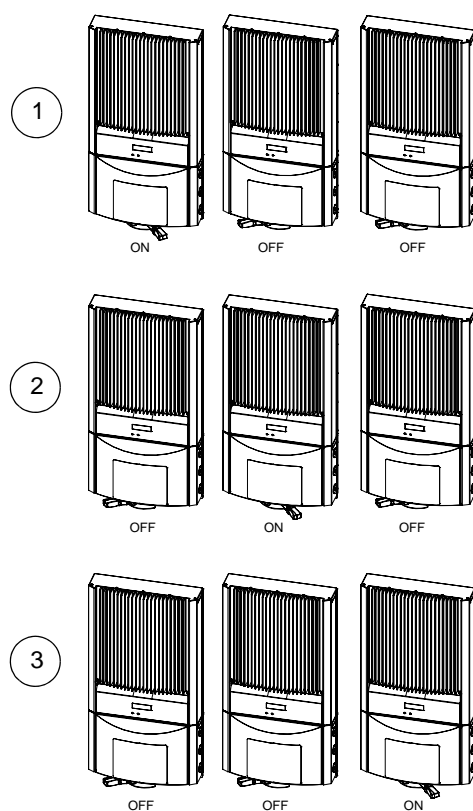

Figure 4-2 Commissioning Sequence for Multiple Inverters
7. Proceed to the next inverter and perform the same test. See Figure 4-2 for an example of the recommended commissioning sequence.